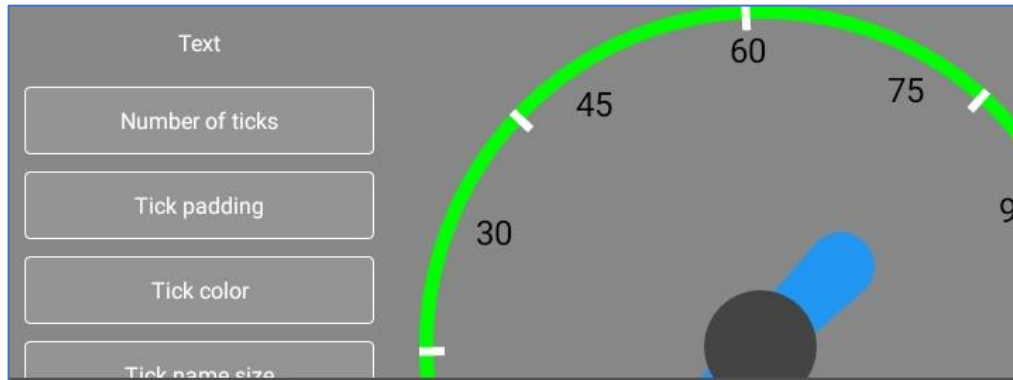

fig.4.16. Group of settings “Divisions”
- **Group of settings “Divisions”** contains the information related to scale divisions. The divisions are evenly spaced on the specified angular size of the indicator (fig.4.16).